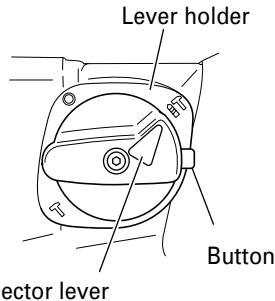

Fig. 5
- (1) Switching to "rotation + hammering"
- (b) Align \blacktriangle of the selector lever and H of the lever holder as illustrated in Fig. 5.